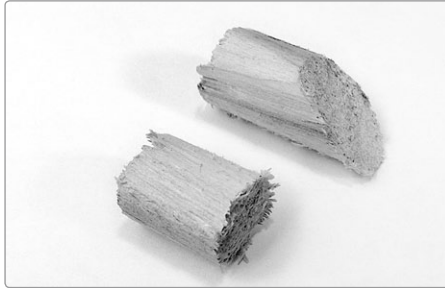

FIGURE 4-5: Your piston (lower) and fipple block (upper). Note that the fipple block's longest (i.e., lower) edge is 1 inch long.
Step 2 Cut your fipple block and piston. The piston is just a straight-cut 1/2-inch-long piece of the 7/16-inch dowel; it's the lower piece shown in Figure 4-5. The fipple block is a 1-inch-long piece of dowel with the same angle as your mouthpiece and flute body. (Protip: if you freehanded the cut in Step 1, you can get a pretty good matching angle by using the mouthpiece as a guide—the point, after all, is for the two to match.)